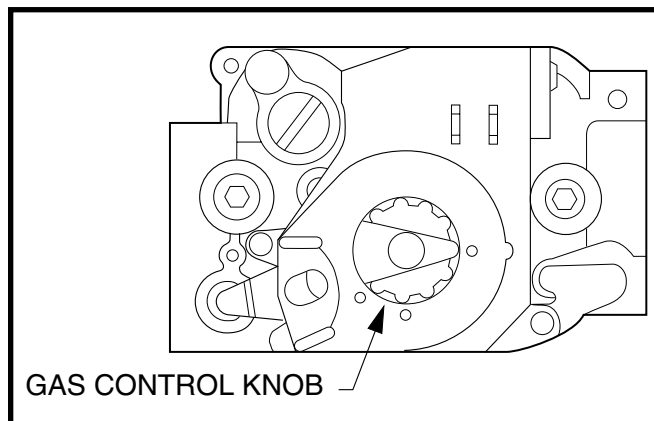
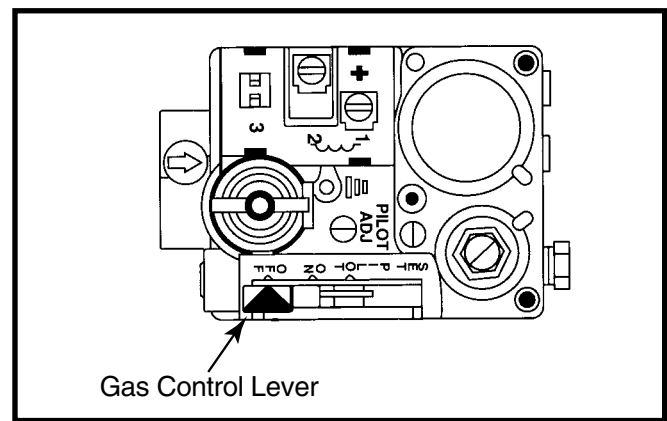

Figure 30. Direct Ignition Gas Valve - Honeywell
Figure 31. Direct Ignition Gas Valve - Robertshaw
- **Honeywell**: push in and turn the gas control knob clockwise to **OFF**. See Figure 30.
- **Robertshaw**: push the gas control lever (Do not force!) to the **OFF** position. See Figure 31.
4. Wait ten (10) minutes to clear out any gas. If you smell gas, **STOP!** and follow the Safety Information on page 21. If you do not smell gas, proceed to next step 5.
- **Honeywell**: push in and turn gas control knob counter-clockwise to **ON** (Figure 30).
- **Robertshaw**: push the gas control lever to the **ON** position (Figure 31). **Do not force!**
- **Honeywell** (Figure 30): Turn gas control knob clockwise to **OFF**, **Robertshaw** (Figure 31): Push the gas control lever to **OFF**.
- **Honeywell**: push in and turn the gas control knob clockwise to the OFF position (Figure 30).
- **Robertshaw**: push the gas control lever to the OFF position (Figure 31).